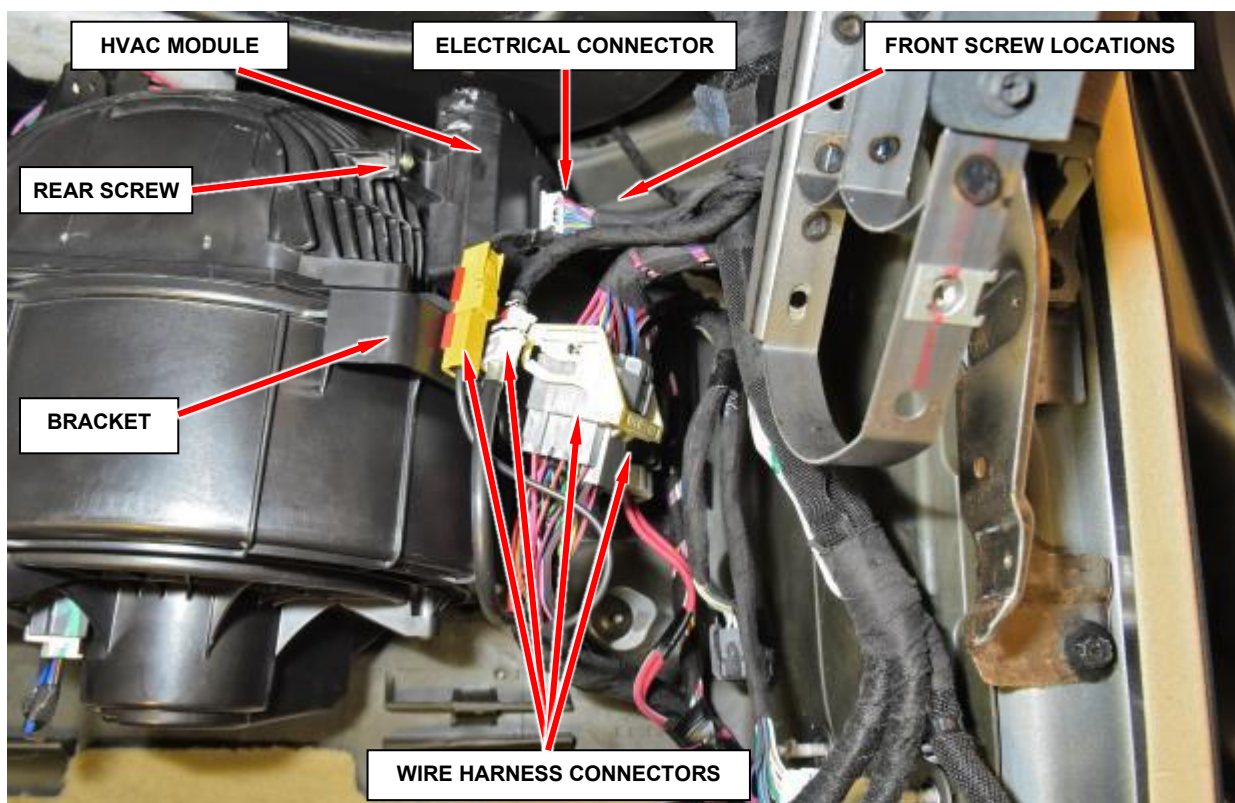

Figure 11 – HVAC Module
6. Disconnect the electrical connector from the HVAC module, located on the air inlet housing (Figure 11).
7. Release the wire harness connectors from the bracket (Figure 11).
8. Loosen the two screws that secure the front of the HVAC module to the air inlet housing (Figure 11).
9. Remove the one screw that secures the rear of the HVAC module to the air inlet housing (Figure 11).